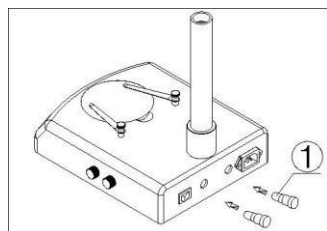

Fig.16
- 1) Screw the fuse tube out with a screwdriver and then pull the fuse out of the tube①.
- 2) Renew the fuse and mount it in an adverse way. (Fig.16)